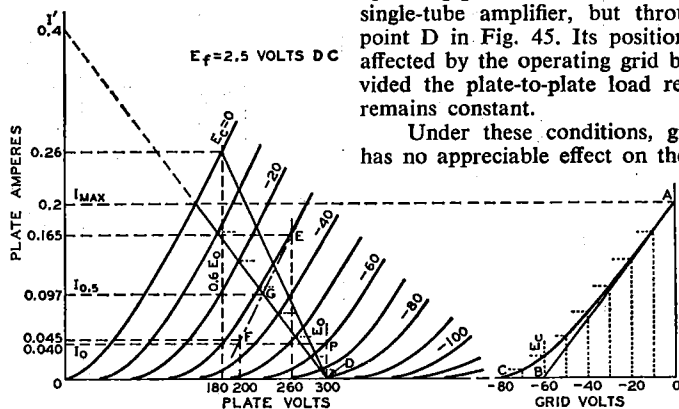

Fig. 45—Graphic calculations for class AB1 amplifier using a power triode. Fig. 46—Instantaneous curve for class AB1 amplifier.
In class AB1 push-pull amplifier service using triodes, the operating conditions may be determined graphically by means of the plate family if Eo, the desired operating plate voltage, is given. In this service, the dynamic load line does not pass through the operating point P as in the case of the single-tube amplifier, but through the point D in Fig. 45. Its position is not affected by the operating grid bias provided the plate-to-plate load resistance remains constant.
In general, for any load line through point D, Fig. 45, the plate-to-plate load resistance in ohms of a push-pull amplifier is  $R_{pp} = 4E_o/I'$ , where  $I'$  is the plate-current value in amperes at which the load line as projected intersects the plate-current axis, and  $E_o$  is in volts. This formula is another form of the one given under push-pull class A amplifiers,  $R_{pp} = 4(E_o - 0.6E_o)/I_{max}$ , but is more general. Power output =  $(I_{max}/\sqrt{2})^2 \times R_{pp}/4$ , where  $I_{max}$  is the peak plate current at zero grid volts for the load chosen. This formula simplified is  $(I_{max})^2 \times R_{pp}/8$ . The maximum-signal average plate current is  $2I_{max}/\pi$  or  $0.636 I_{max}$ ; the maximum-signal average power input is  $0.636 I_{max} \times E_o$ .
**Example:** Fig. 45 illustrates the application of this method to a pair of power triodes operated at  $E_o = 300$  volts. Each tube has a plate-dissipation rating of 15 watts. The method is to
the plate family and the load line. Fig. 46 is a curve of instantaneous values of plate current and dc grid-bias voltages taken from Fig. 45. Values of grid bias are read from each of the grid-bias curves of Fig. 45 along the load line and are transferred to Fig. 46 to produce the curved line from A to C. A tangent to this curve, starting at A, is drawn to intersect the grid-voltage abscissa. The point of intersection, B, is the operating grid bias for fixed-bias operation. In the example, the bias is  $-60$  volts. Refer back to the plate family at the operating conditions of plate volts = 300 and grid bias =  $-60$  volts; the zero-signal plate current per tube is seen to be 0.04 ampere.
As in the case of the push-pull class A amplifier, the second-harmonic distortion in a class AB1 amplifier using triodes is very small and is largely canceled by virtue of the push-pull connection. Third-harmonic distortion, however, which may be larger than permissible, can be found by means of composite characteristic curves. A complete family of curves can be plotted, but for the present purpose only the one corresponding to a grid bias of one-half the peak grid-voltage swing is needed. In the example, the peak grid voltage per tube is 60 volts, and the half value is 30 volts. The composite curve, since it is nearly a straight line, can be constructed with only two points (see Fig. 45). These two points are obtained from deviations above and below the operating grid and plate voltages.
These steps provide points at 260 volts and 0.165 ampere (E), and at 200 volts and 0.045 ampere (F). A straight line through these points is the composite curve for a bias of  $-30$  volts, shown as a long-short dash line in Fig. 45. At the intersection of the composite curve and the load line, G, the instantaneous composite plate current at the point of one-half the peak signal swing is determined. This current value, designated  $I_{0.5}$  and the peak plate current,  $I_{max}$ , are used in the following formula to find the peak value of the third-harmonic component of plate current.